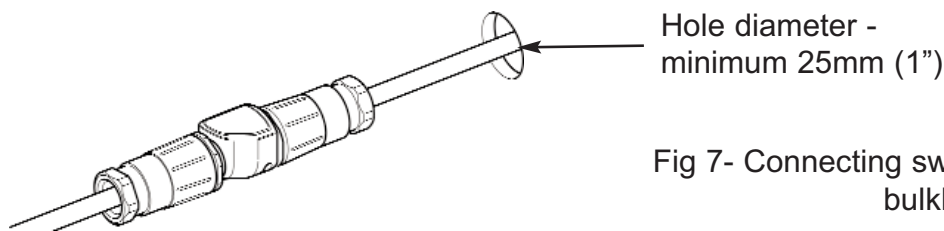

Fig 7- Connecting switching cable through bulkhead
- Fig 7 Connecting Switching Cable Through Bulkhead